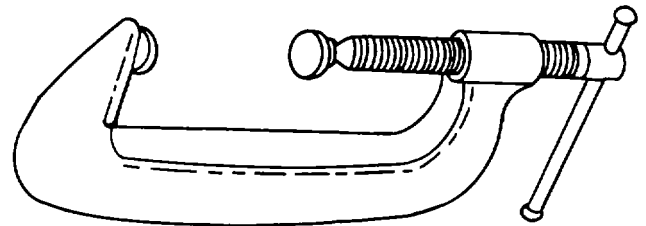

Figure 4-55. Carriage Clamp
b. *Carriage Clamps.* The carriage clamp, commonly called a C-clamp, is constructed in the shape of a large C, as shown in figure 4-55. It is tightened by use of a screw threaded through one of the bars and has a swivel plate to prevent the end of the screw from turning against the item being clamped. C-clamps are used to hold work which cannot be held in a vise, or which has to be held for an extended period of time. They are available in a variety of sizes.